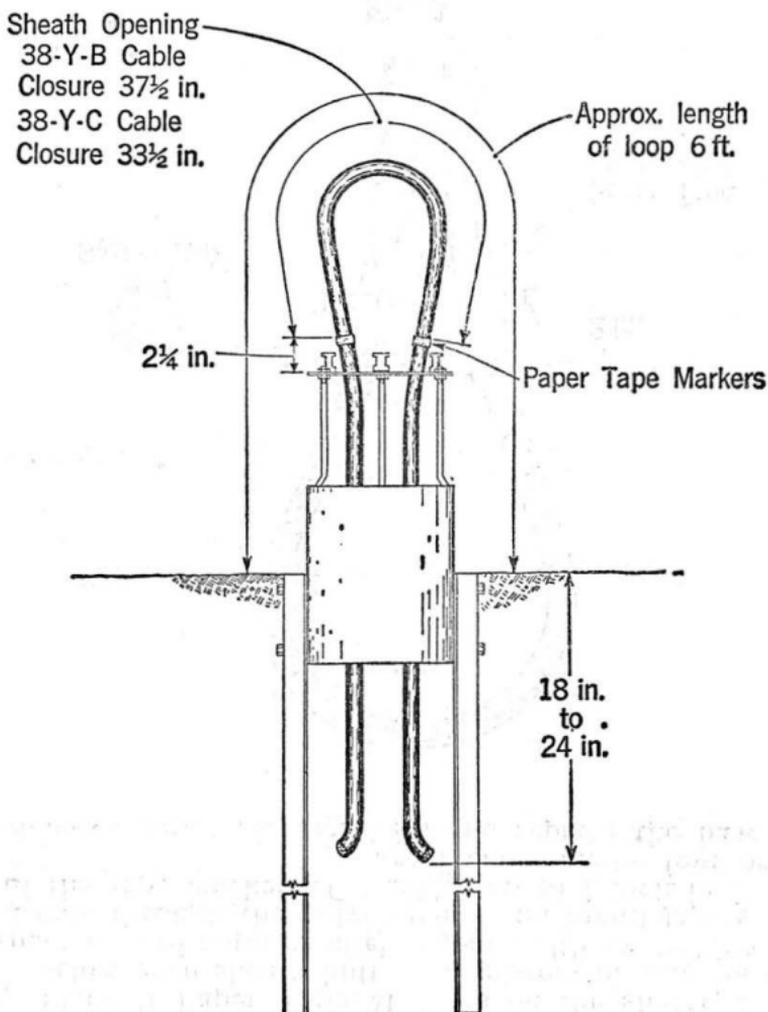

Fig. 2
2.01 Temporarily install the base plate on the end of the base rods using the nuts provided. Hold each cable in place near the sheath ground tab to which it will be secured. Place B Paper Tape Markers with the top edge 2-1/4 inches above the base plate as illustrated in Fig. 2.